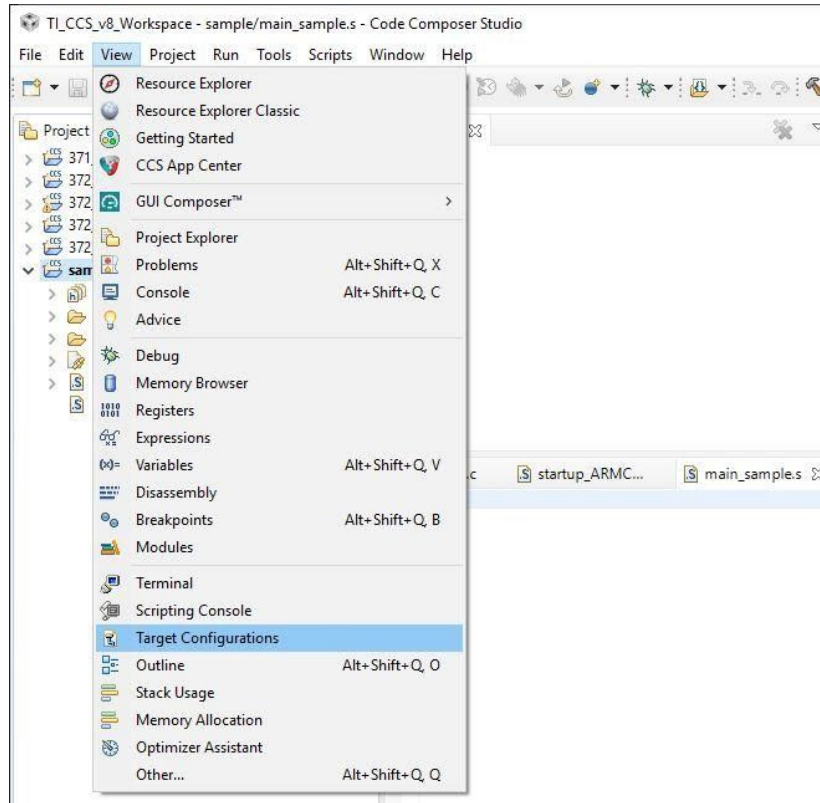

Figure 21 : View target configuration
- Now your program can be loaded for execution by going to the Menu bar and selecting **Run -> Load -> Load Program** (shown in Figure 21) At the Dialog box that pops up, click Browse and browse to the location of the project. It will be inside your Workspace directory. Inside the Project, the executable .out file can be found in the Debug directory. Once it is selected and you click OK, the emulator loads it into the processor.